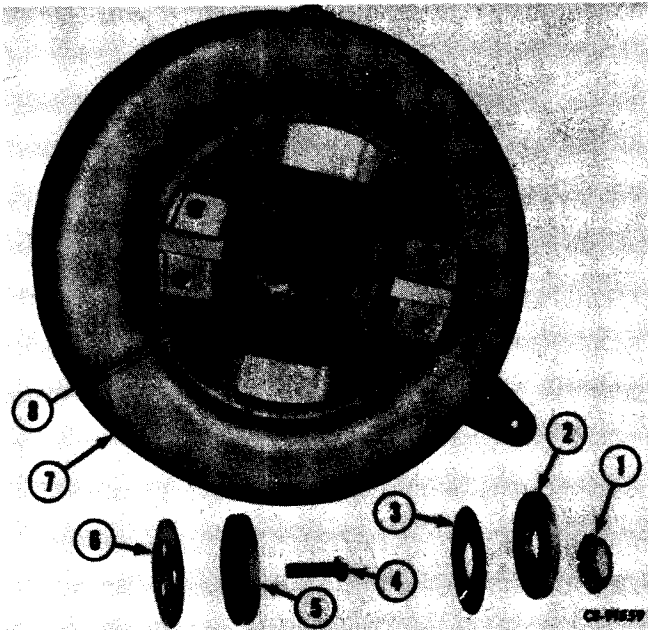

Figure 13-59
Remove cap screws (4, Fig. 13-59), retainer (5) and seal washer (6), from bore of yoke.
Install yoke and drum assembly (7, Fig. 13-59) on shaft (8). Place a new seal washer (3) and retainer (2) on shaft and secure with lock nut (1). Tighten lock nut to recommended torque (refer to "SPECIAL TORQUES").